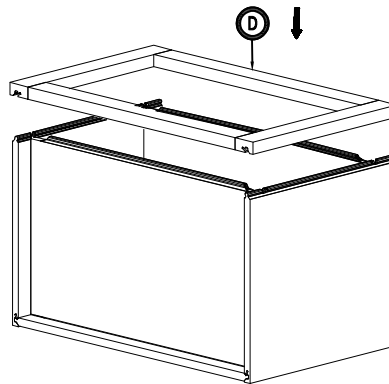

Figure 5
5. Installing the Frame: Insert frame (D) into grooves of side panel (A) & top, bottom panel (C). Press down until they click into place. (Figure 5)